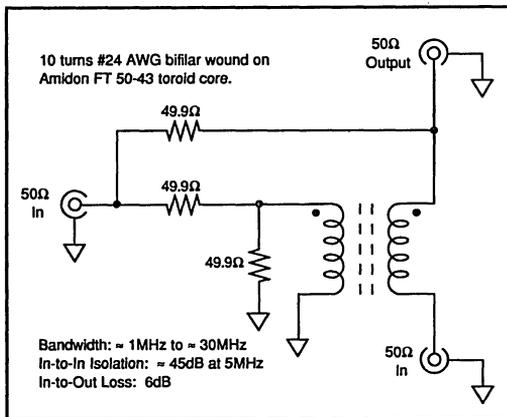
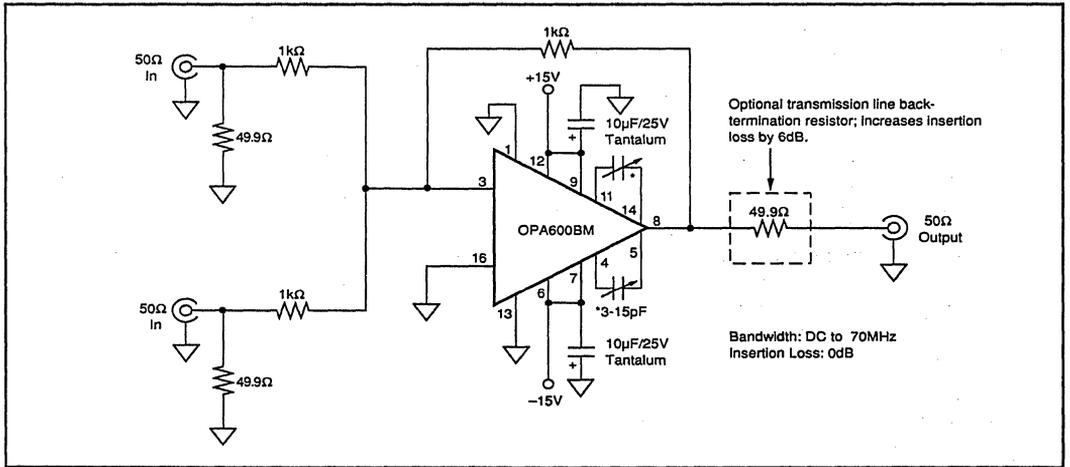

FIGURE 17. Passive Signal Combiner.
FIGURE 18. Active Signal Combiner.
- Two-tone testing will require isolation between test signal generators to prevent IMD generation in the test generator output circuits. An active summing amplifier using an OPA600 is shown in Figure 18. This circuit will provide excellent performance from DC to 5MHz with harmonic and intermodulation distortion products typically better than -70dBc . A passive (hybrid transformer) signal combiner can also be used (Figure 17) over a range of about 0.1MHz to 30MHz. This combiner's port-to-port isolation will be $\approx 45\text{dB}$ between signal generators and its input-output insertion loss will be $\approx 6\text{dB}$. Distortion will be better than -85dBc for the powdered-iron core specified. Avoid ferrites. The circuits shown in
Figures 17 and 18, have bandwidths beyond those required for the ADC601; therefore, they have even better performance at 500kHz. These combiners are always good additions to high-speed engineering labs.